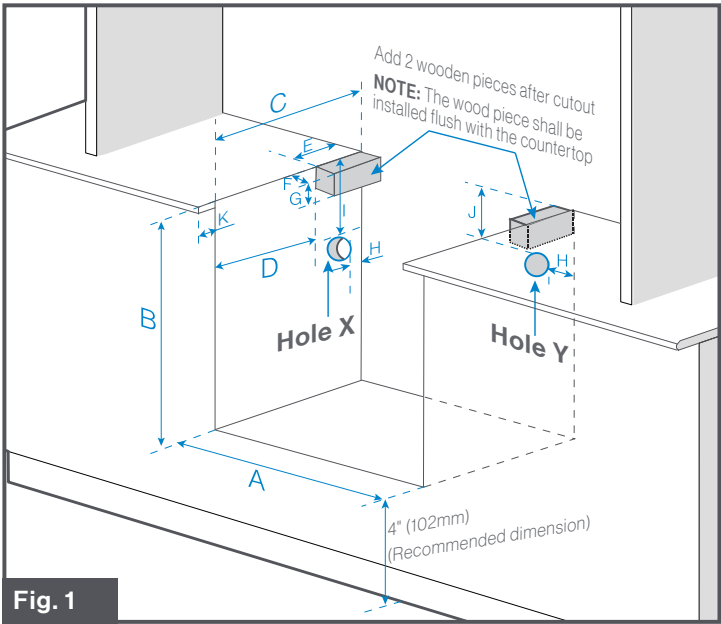
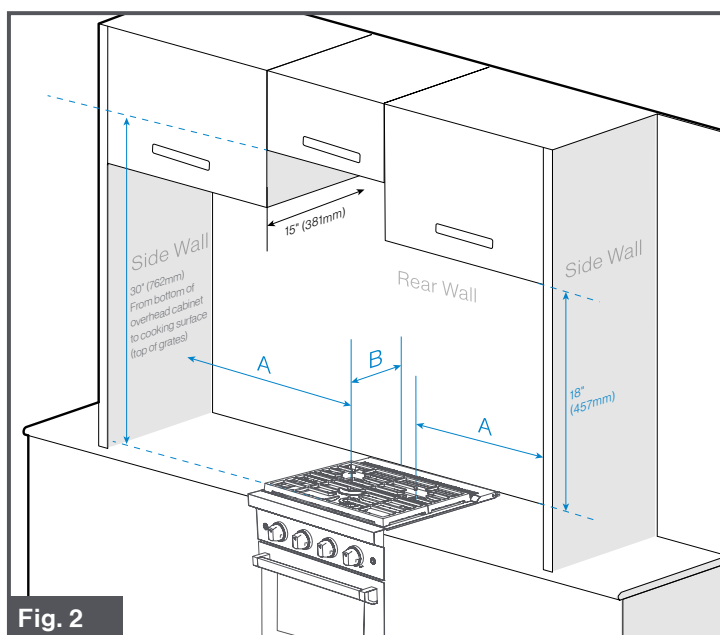
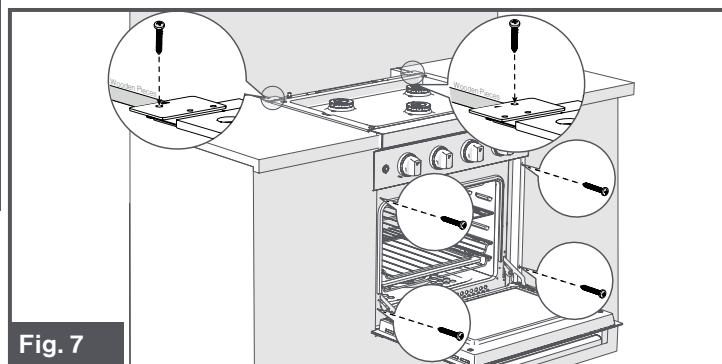

Fig. 1
Fig. 2
Fig. 7
NOTE: When planning the location, consider curtains or other combustible materials installed around the appliance so as not to create a fire hazard. The cabinet cutout must be located with respect to the minimum clearance to combustible materials. (Fig. 1)
The minimum horizontal distance(s) from sides and back of appliance to adjacent vertical combustible walls extending above the top panel: (Fig. 2)
NOTE: When the cabinet has been prepared according to the dimensions given above (Fig. 1 and Fig. 2) and the gas line is in place.
15. Open the oven door and securely fasten the oven in place with four screws (not provided). (Fig. 7)
16. Securely fasten the rear of oven to the pre-installed wood piece (Fig. 1) in place with two screws (not provided). (Fig. 7)
Align the arrows from the rear decoration panel with the arrows on the rear mounting tabs on the back of the range and push up against the wall behind the range. Use 2 screws (not provided) and attach to the pre-installed wood piece from Fig. 1.